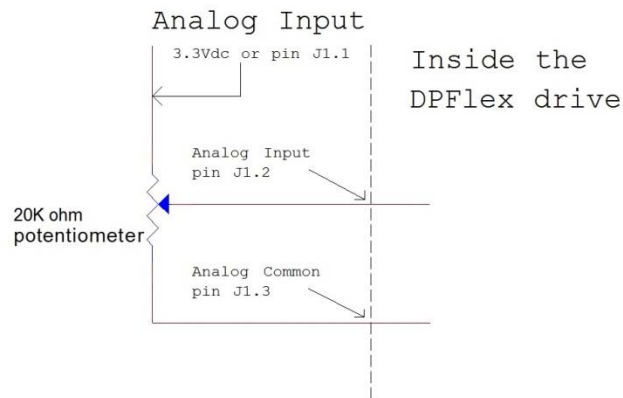

Figure 10: Example of connecting passive circuitry to DPFlex's analog input generation 2
(4) Refer to schematic shown in Figure 10.